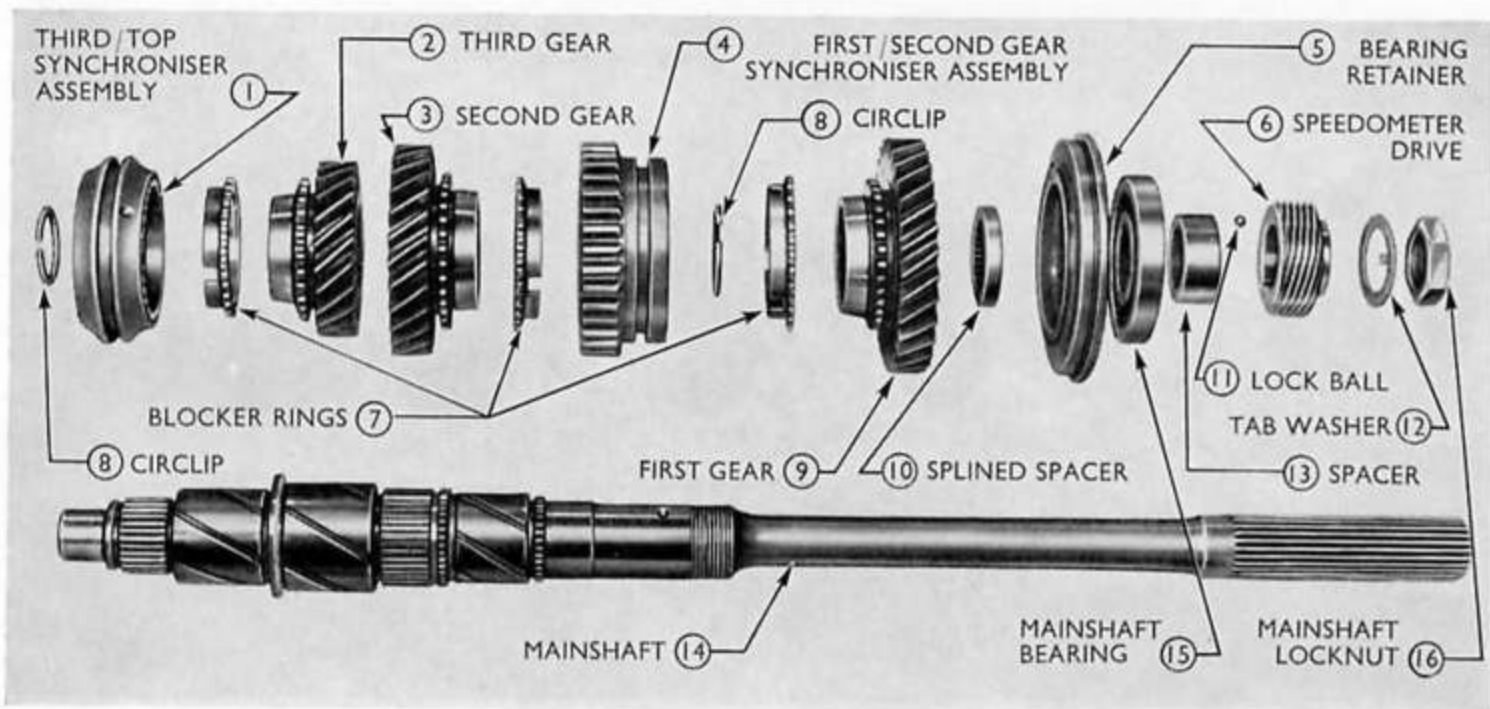

Fig. 11
10. Slide the third gear onto the shaft with the dog teeth away from the thrust collar on the shaft and locate the blocker ring on the taper face of the gear (see Fig. 11).